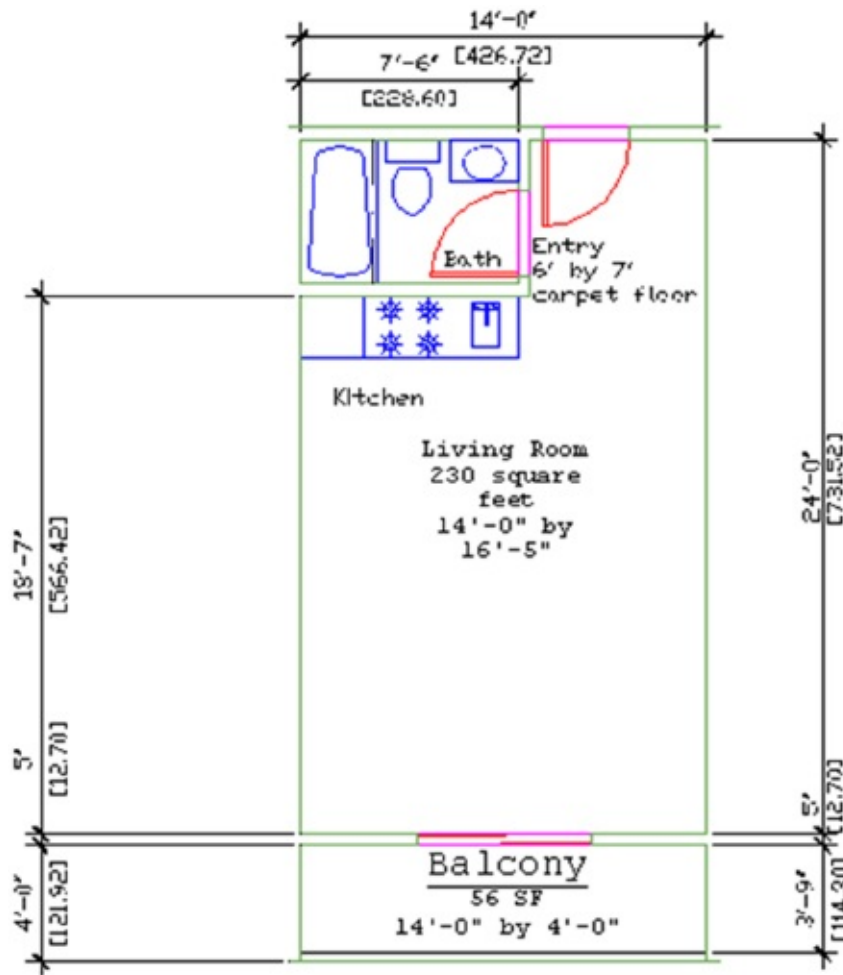

FIGURE 11.23 The dimensions for the wall
5. Click a point to the left of the wall to place the dimension. A string of dimensions appears, displaying all of the dimensions for the wall (see Figure 11.23).